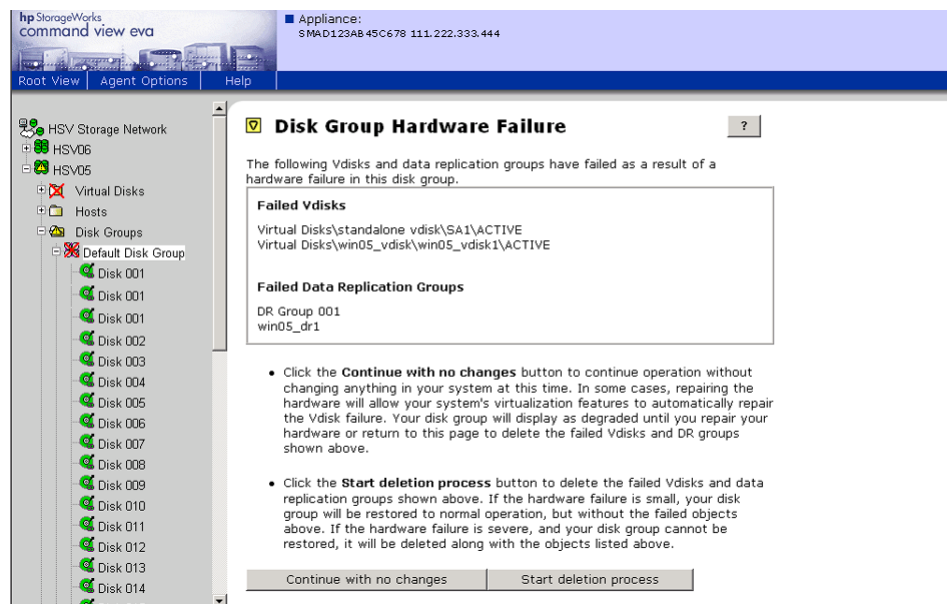

Figure 50: Command View EVA hardware deletion process
3. Navigate to the failed disk group. A screen similar to Figure 50 is displayed and lists failed Vdisks and DR groups. Click the **Start deletion process** tab.